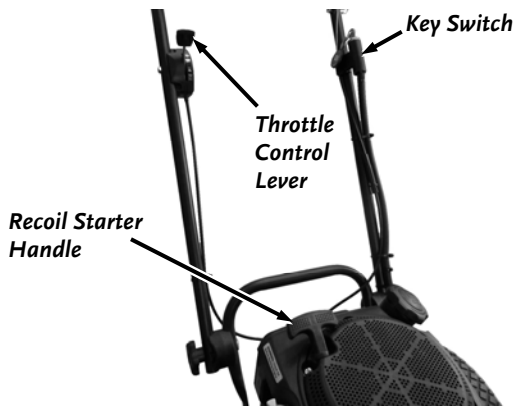

Figure 12
1. Push the Throttle Control Lever on the right side of the Handlebar (**Figure 12**) all the way forward (Rabbit or Choke position depending upon model).
3. Turn the Key (**Figure 12**) to the START position until the Engine starts, then release. The Key will snap back to the RUN position and the Engine will continue to run.
1. Move the Throttle Control Lever (**Figure 12**) all the way back past the TURTLE (Slow) position to the STOP position.